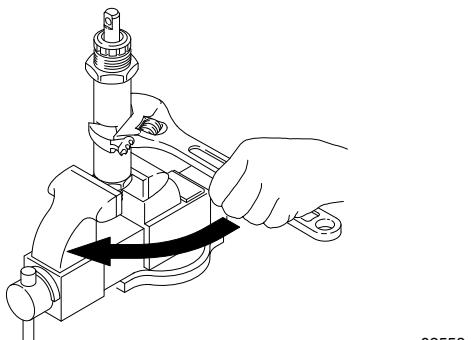

Fig. 16 _____ 02558
1. Loosen the packing nut (16) and plug (5). Unscrew the cylinder from the intake valve. See Fig. 16.